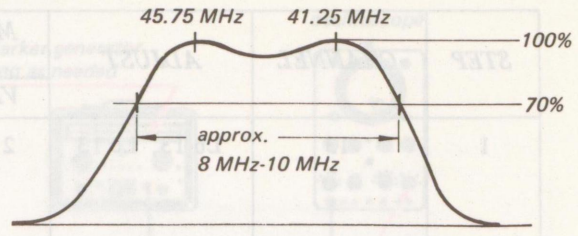

Fig. 5-14. UHF-IF response curve
- 7. Adjust two coils LB1 and LC1 to produce the waveform shown in Fig. 5-14.